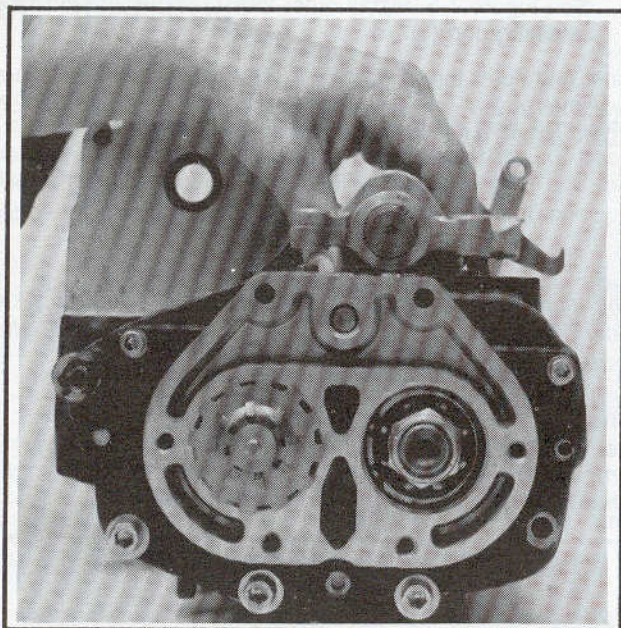

Figure 7-6. Shifter Cam Support Block Locating Dowel Pins
6. See Figure 7-6. Place shifter cam assembly on transmission case with shifter forks positioned in the slots.